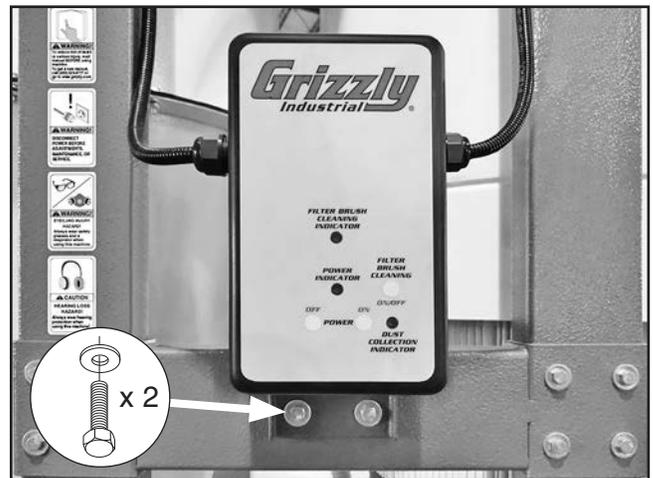

Figure 35. Control panel installed.
37. Attach control panel to right leg brace using (2) $\frac{5}{16}$ "-18 x $\frac{3}{4}$ " hex bolts and (2) $\frac{5}{16}$ " fender washers (see **Figure 35**).